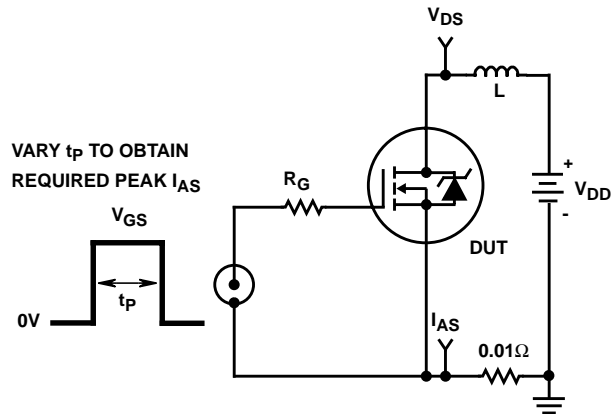

FIGURE 15. UNCLAMPED ENERGY TEST CIRCUIT
4.  $V_{DD} = 50\text{V}$ , starting  $T_J = 25^\circ\text{C}$ ,  $L = 60\text{mH}$ ,  $R_G = 25\Omega$ , peak  $I_{AS} = 2.5\text{A}$ . (Figures 15, 16).